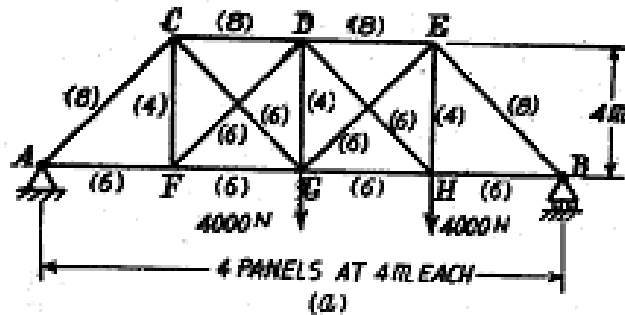

Figure 6
8. Find the forces in all the members of the frame shown in Figure 6. The figures in parenthesis show the cross sectional area of the members in cm²?